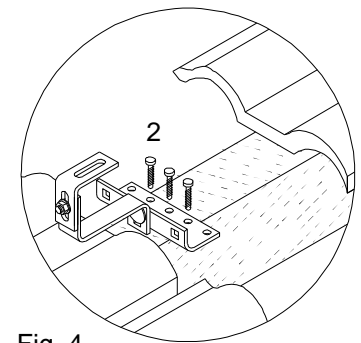

Fig. 4
3. The hooks (1) can be adjusted to the height of the roof battens and/or tiles with the two square neck carriage-bolts. The distance between the panels and the roof should be kept as small as possible. The hooks are fixed with panels screws (2) to the rafter (Fig. 4).